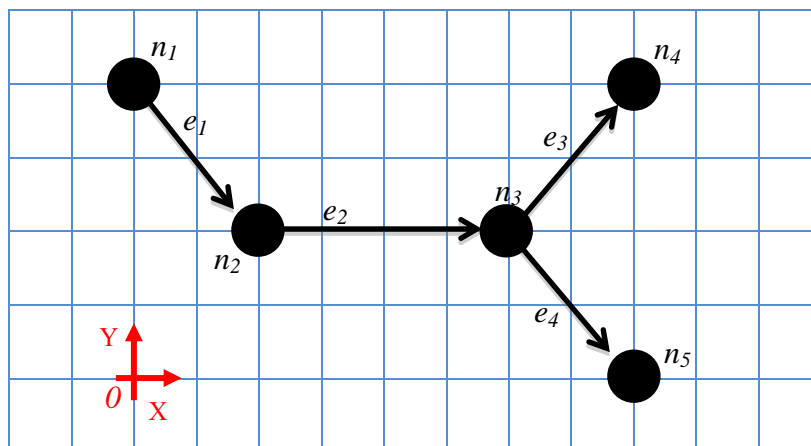

Figure 2. The desired topological graph of five agents.
Considering five holonomic agents, the goal is to design a graph-based control algorithm which leads them to the topological formation shown in Figure 2.
**Q24** (3): Write down the Laplacian matrix of the graph in Figure 2, assuming all weights equal to one.
**Q25** (3): Write down the x- and y- biases of the agents in the graph relative to the origin of the coordinate system shown in the figure.
**Q26** (3): Assuming that each node of this graph has a state defined by its Cartesian position (node  $n_1$  has  $(x_1, y_1)$ ; node  $n_2$  has  $(x_2, y_2)$ ; etc.), write a Laplacian control law that will accomplish the formation of Figure 2.
**S27** (3): Open Matlab by typing “*matlab*” in a terminal. Open the script “*laplacian\_formation.m*” in Matlab. Run the script. You will see five agents moving in the space converging to a formation. Verify that this formation is the one shown in Figure 2. How long does it take for the agents to get to their proper positions in the formation?
**Q28** (2): Read the “*laplacian\_formation.m*” script carefully and try to locate where the Laplacian matrix is computed. Locate where bias vectors are defined in the code and verify your answer to **Q25**.
**Q29** (3): Try to find out how your differential equation in question **Q26** is implemented in discrete time. Write down the control law implemented in the code and compare it with your differential equation.
**B34** (7): Add three more edges to the graph in Figure 2. Compute the “*Incidence*” matrix of the new graph. Modify the “I” matrix in the code and run the script. Is the achieved final formation topology different? Is the convergence faster than before? What do you conclude?